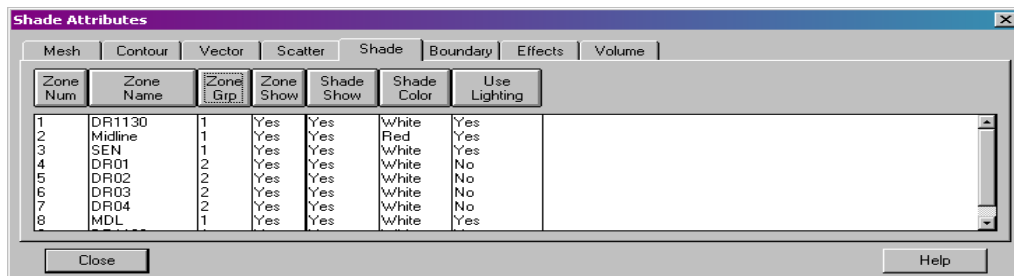

Figure 15-1. The Shade Attributes dialog.
1. From the Field menu, select Shade Attributes. The Shade Attributes dialog appears as shown in Figure 15-1.